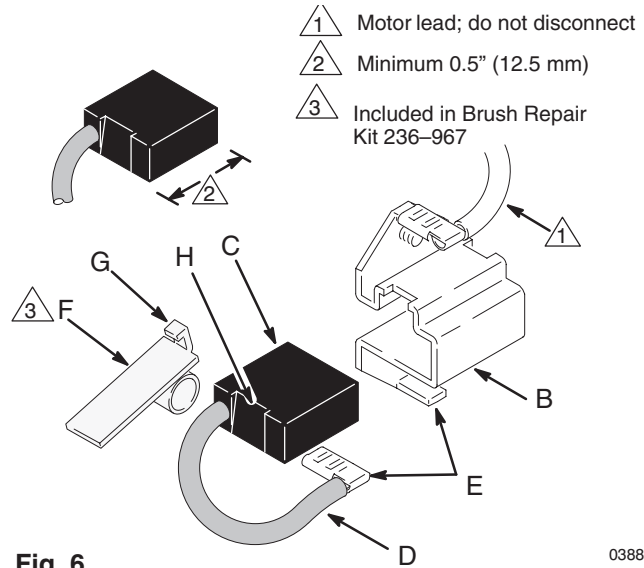

Fig. 6
2. Push in the spring clip (F) and release its hook (G) from the brush holder (B). Pull out the spring clip. See Fig 6.
3. Slide off the brush lead terminal (E) off the blade connector. Remove the old brush (C). See Fig 6.